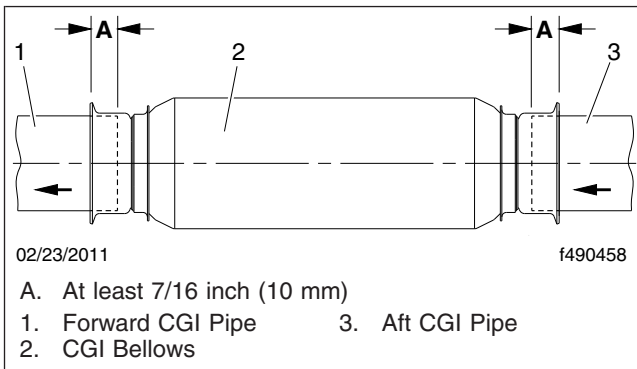

Fig. 9, CGI Bellows Installation
12. Slide the new bellows onto the aft CGI pipe as far as it will go. See Fig. 9, Ref. A. Measurement
16. Using the yellow marks, center the bellows between the exhaust pipes. Verify that the pipe is inserted at least 7/16 inch (10 mm) past the face of the flange. See Fig. 9, Ref. A.